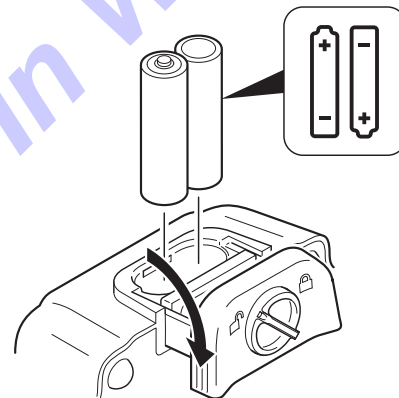

Figure 69 – Install Foot Pedal Batteries
2. Install two AA alkaline batteries into the battery compartment in the correct orientation (Figure 69).